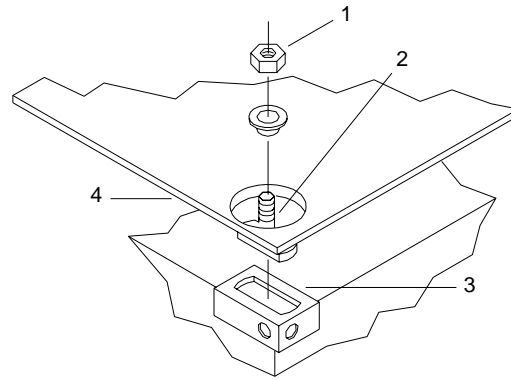

Figure 1. Deck Mat Removal
1. Using socket, adapter and wrench, loosen nut (figure 1, item 1) on tee bolt (figure 1, item 2).
2. Rotate tee bolt (figure 1, item 2) until aligned with slot in fitting (figure 1, item 3).
3. Lift tee bolt (figure 1, item 2) through top hole of corner fitting (figure 1, item 3) and deck mat (figure 1, item 4).